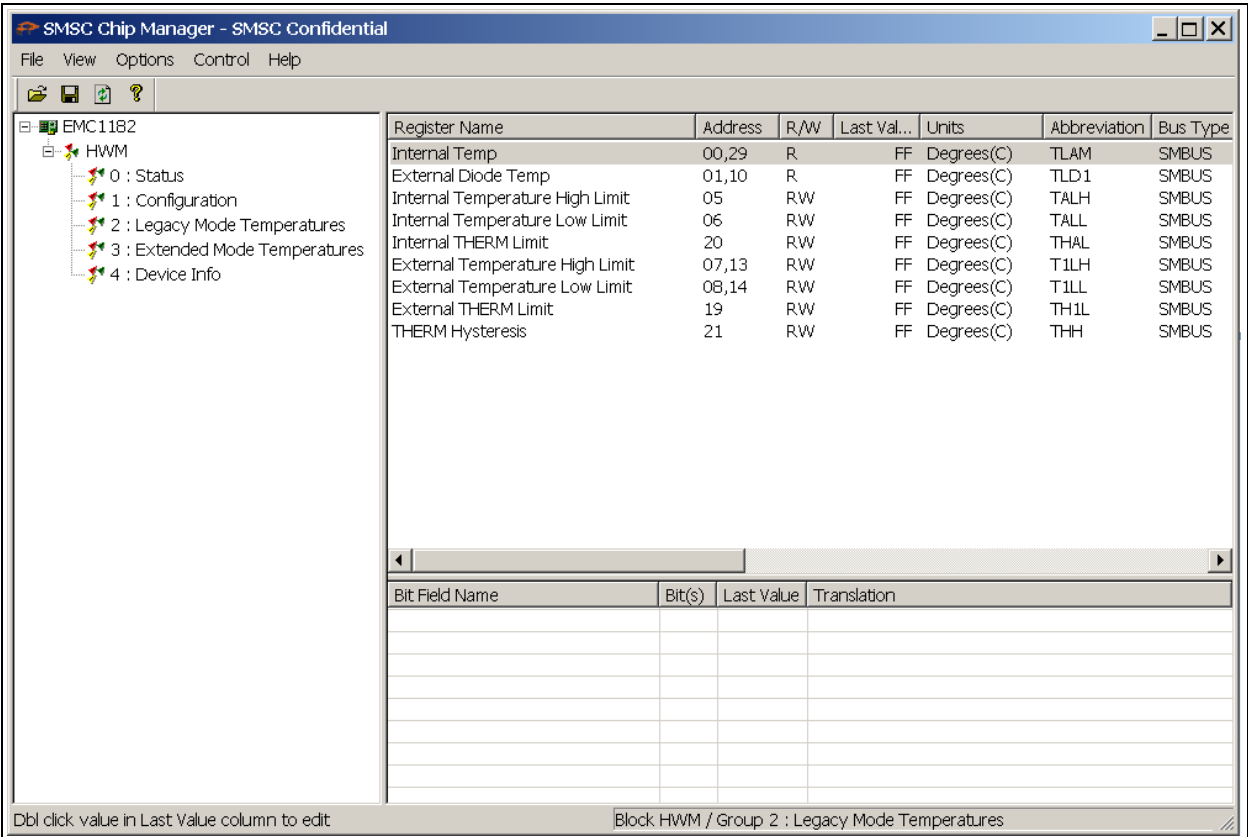

FIGURE 2-9: Chip Manager Register Groups.
11. From the Chip Manager main menu, ensure that *Options > Auto refresh Registers* is checked. In the left panel, click the hardware monitor (HWM) to expand the content, then select any of the register groups, as shown in Figure 2-9. The USB Activity LED on the board starts blinking when any of the register groups are selected. The register values are automatically updated every second when the Auto Refresh option is on.